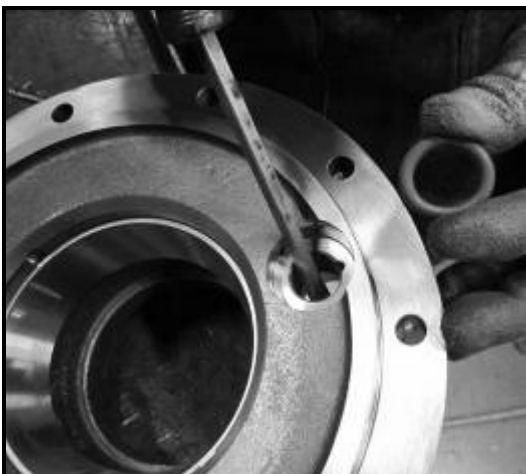

Figure 62
11. Place an O-ring into the insert on the carrier. See **Figure 62**.